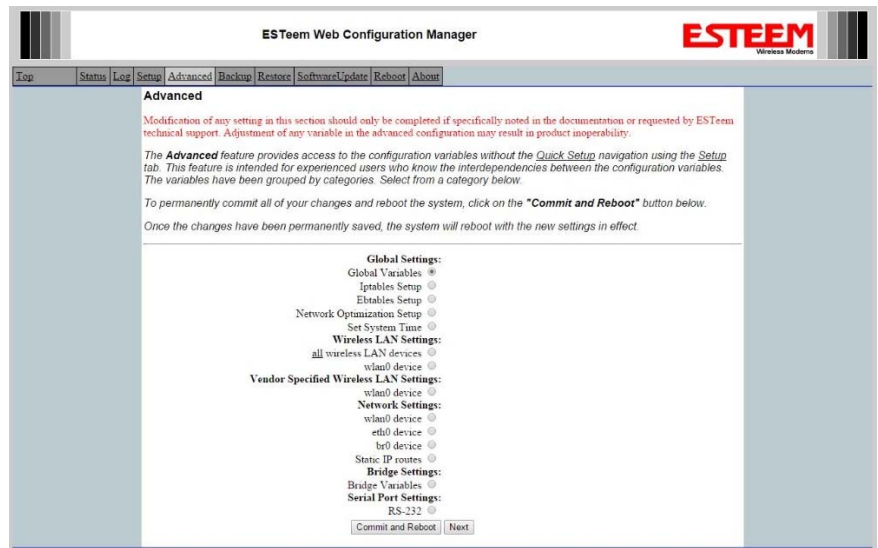

Figure 3: Advanced Menu
1. The Modem ID field can be adjusted under the *Global Variables* of the Advanced Menu tab. Select Global Variables and press the *Next* button. (Figure 3)